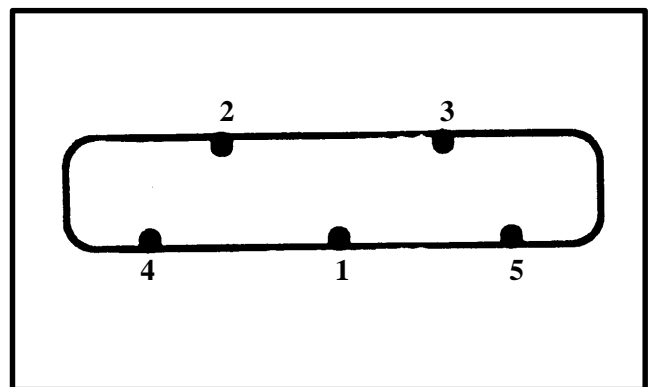

FIGURE 11. ROCKER ARM COVER TIGHTENING SEQUENCE
5. Tighten the rocker arm cover bolts to 6 Nm (50 lbf in) in the sequence shown in FIGURE 11.